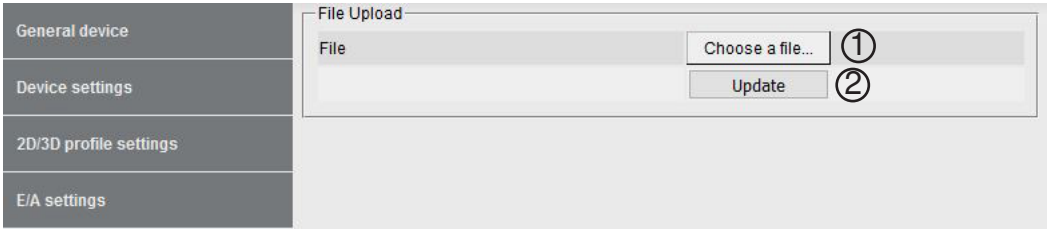

Fig. 68: Start window update process
Click „Choose a file“ (1) and select the file „Firmware_weCat3D_xxx.run“. The file can be downloaded at www.wenglor.com from the product's download area. Then acknowledge by clicking „Update“ (2) and wait until updating has been completed (see Fig. 68 ... Fig. 70).